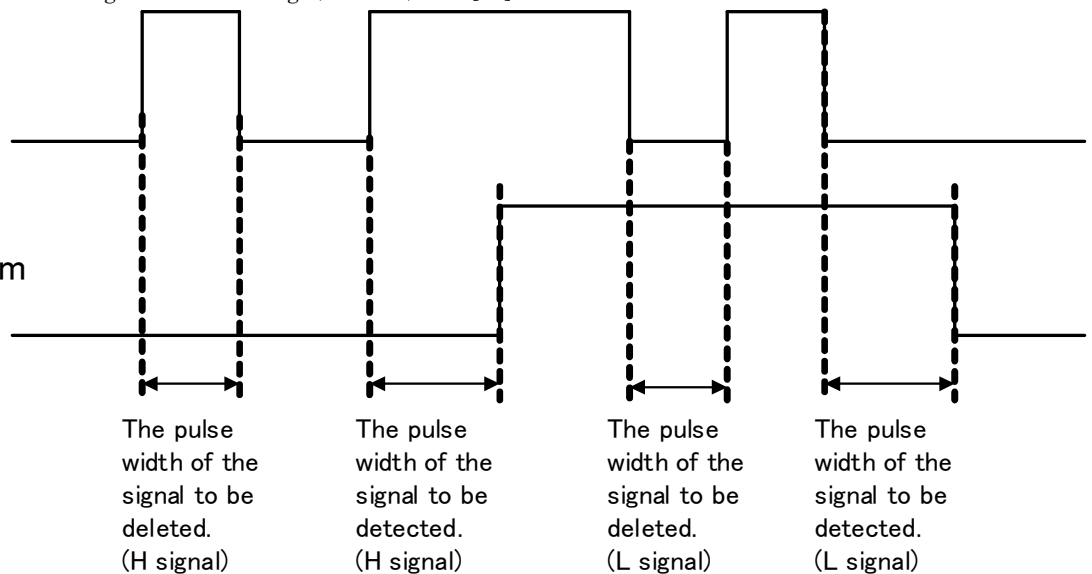

Fig. 9-j Input elimination pulse width (with a filter) and input detection pulse width (with a filter)
* The input detection pulse width (Twmin) means the width of pulses appearing in the output after passing the digital filter, and input elimination pulse width (Twmax) means the width of pulses eliminated by the digital filter (Fig. 9-j).